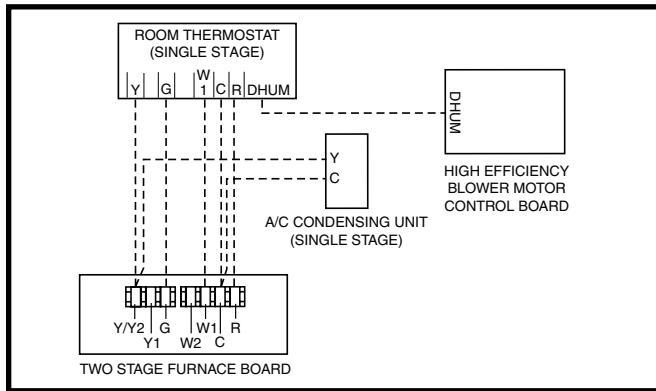
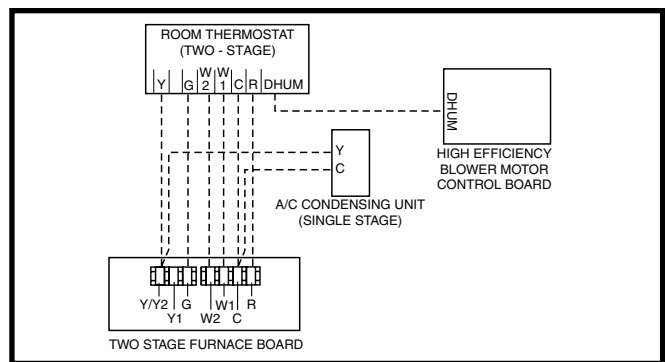
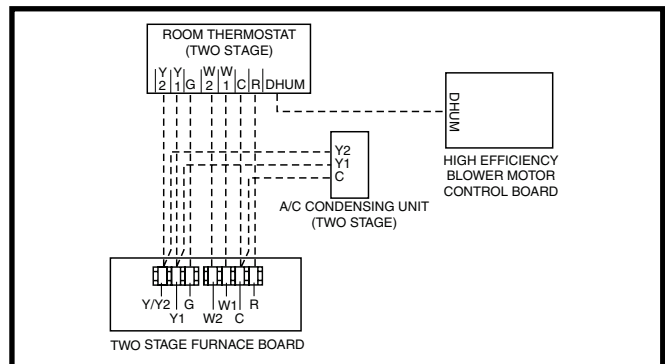

Figure 20. Wiring Configuration 1
Figure 21. Wiring Configuration 2
Figure 22. Wiring Configuration 3
- Connect the thermostat's **W** output to the furnace control boards **W1** terminal. This allows the furnace to always run in low output mode. See (Figure 20)
This option uses the full two stage heating capability of the furnace with a single stage outdoor unit. See Figure 21.
This option uses the full two stage heating capability of the furnace with a two stage outdoor unit. See Figure 22.
The Autostaging feature makes it possible to use a single stage thermostat and still receive some of the benefits of 2-stage furnace operation. If Autostage is enabled, the furnace will drop to **LOW** fire after initially starting in **HIGH** fire. After a period of 10 minutes, the furnace will then stage up to **HIGH** fire, until the heating load is met. See Figure 20 and the Low Voltage Connection section.
- √ Verify that all needed thermostat wires are securely connected to the correct leads on the terminal strip of the circuit board. See Figure 20, \(page 25\), Figure 21, \(page 25\), & Figure 22, \(page 25\).
The operating sequences for the heating, cooling, and fan modes are described below. Refer to the field and furnace wiring diagrams: Figure 19, \(page 24\), Figure 20, \(page 25\), Figure 21, \(page 25\), Figure 22, \(page 25\), & Figure 29, \(page 37\).